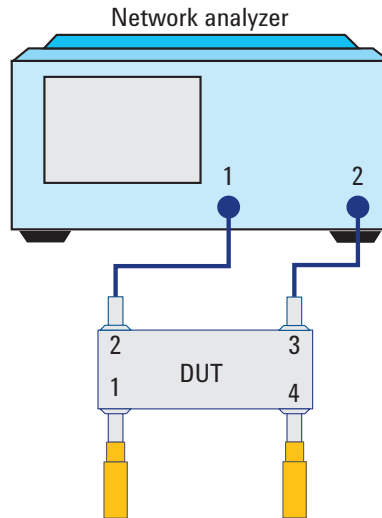

Figure 17. Equipment setup using network analyzer with coupler port 1 and port 3
10. Connect the DUT as shown in Figure 17. Measure and record **isolation S32**.